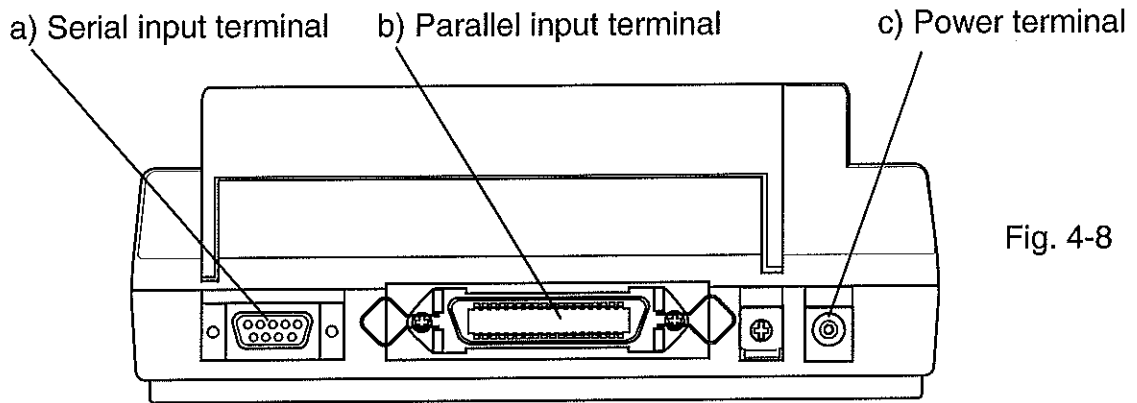

Fig. 4-8
(3)-2 Rear of the main body (Fig. 4-8)